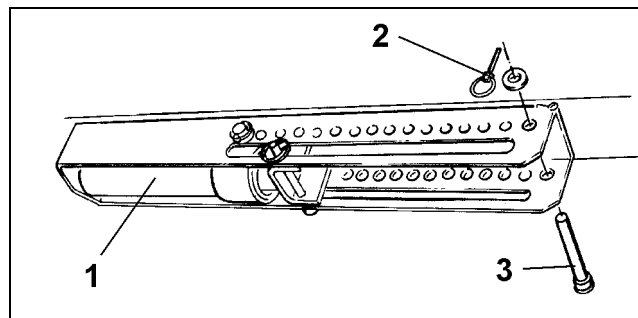

Fig. 76
- Relieve the hydraulic ram (Fig. 76/1) from pressure.
- Insert the pin (Fig. 76/3) into one of the holes of the quadrant plate and secure by using a clip pin (Fig. 76/2).